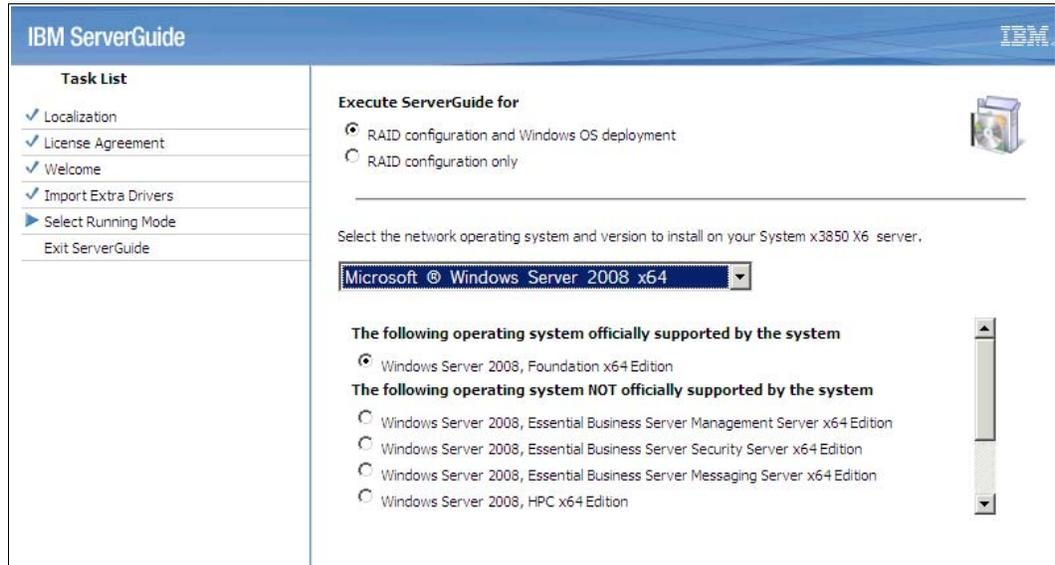

Figure 6-31 Selecting the operating system
9. Next, select the operating system that you want to install and click **Next**, as shown in Figure 6-31.